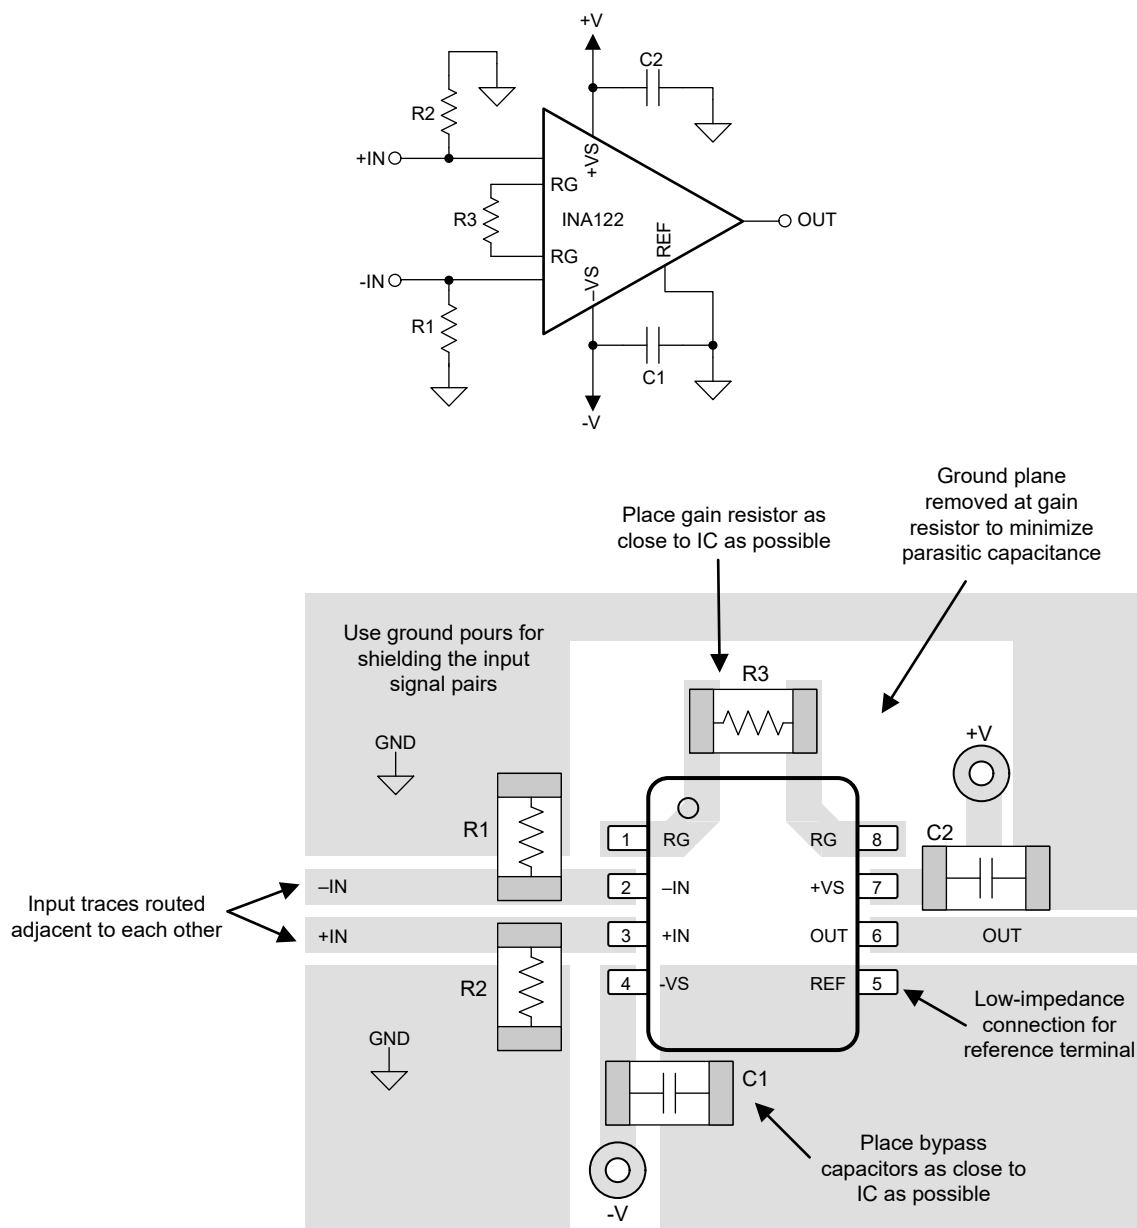

Figure 7-6. Example Schematic and PCB Layout
- Place the external components as close to the device as possible. As shown in Figure 7-6, keeping R_G close to the device minimizes parasitic capacitance.